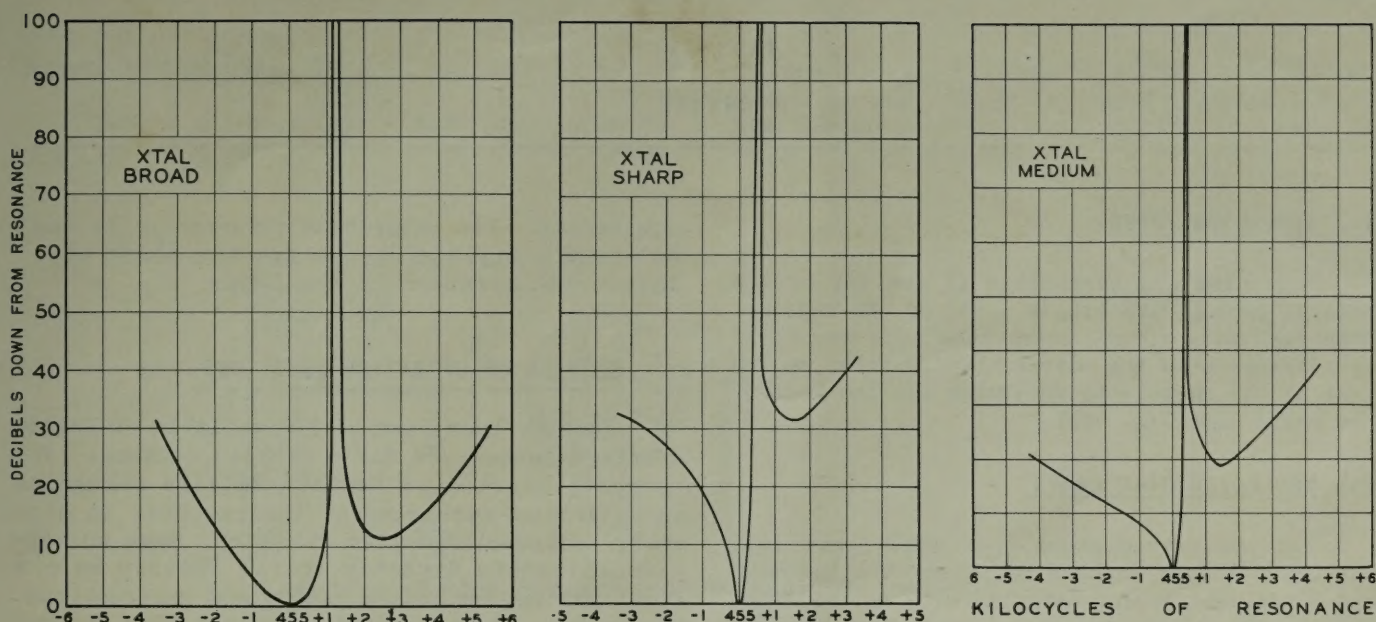

Figure 15. Crystal Curves
- (See Fig. 15 for crystal filter selectivity curves.)